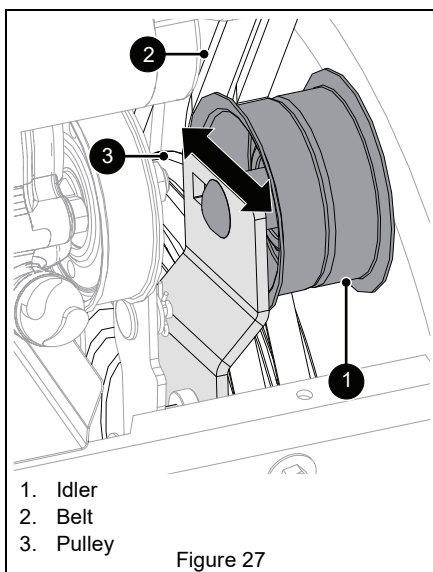

Figure 27
See Figure 27.
- If there is less than 1.6 mm (1/16") gap, loosen idler adjustment nut and move idler away from belt or pulley. Position idler to achieve a 1.6 mm (1/16") minimum brake pad gap and a 12.7 mm – 22.2 mm (1/2" – 7/8") gap between the plastic roller and the frame. See Figure 27.